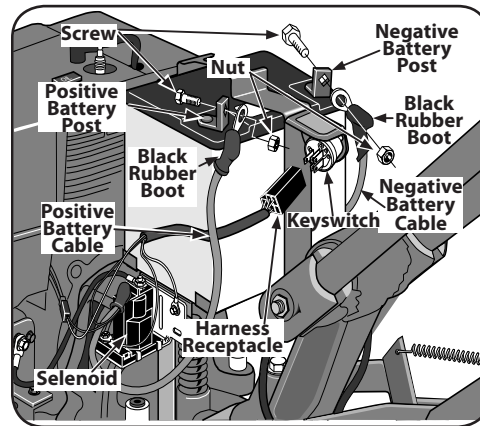

Figure 3-14
1. Before installing the battery and its hold-down clamp, insert the plastic wire harness receptacle into the prongs of the keyswitch located on the hold-down clamp. See Figure 3-14.
2. Remove the ignition keys from the keyswitch and store them safely away. Do not insert the key into the keyswitch until you complete this section and read the Operation section. See Figure 3-14.
3. Use a 5/8" long screw and 1/4-20 hex nut to connect the positive (+) battery cable to the positive (+) battery post. Make sure that this is the cable on the left side, with one end attached to the solenoid. See Figure 3-14.
4. Slide the black rubber boot completely over the battery post and cable connector. See Figure 3-14.
5. Use a 5/8" long screw and 1/4-20 hex nut to connect the negative (-) battery cable to the negative (-) battery post and secure with screw and nut. See Figure 3-14.
6. Slide the black rubber boot completely over the battery post and cable connector. See Figure 3-14.